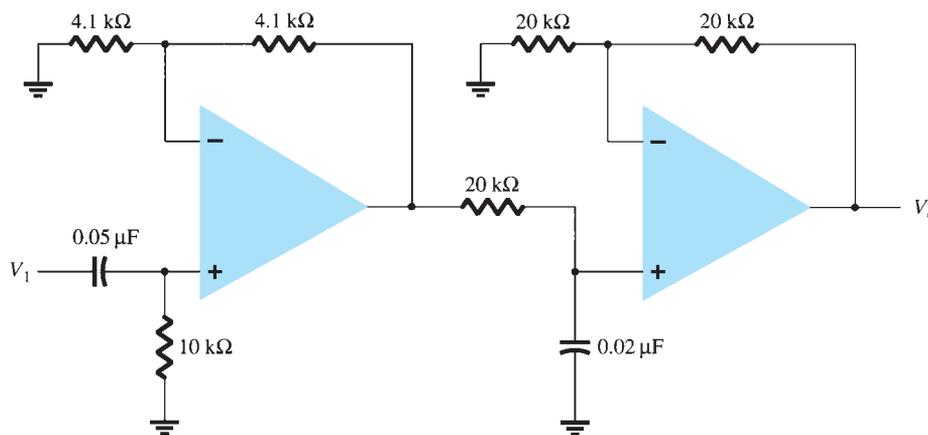

FIG. 11.59
17. Calculate the lower and upper cutoff frequencies of the bandpass filter circuit in Fig. 11.59.